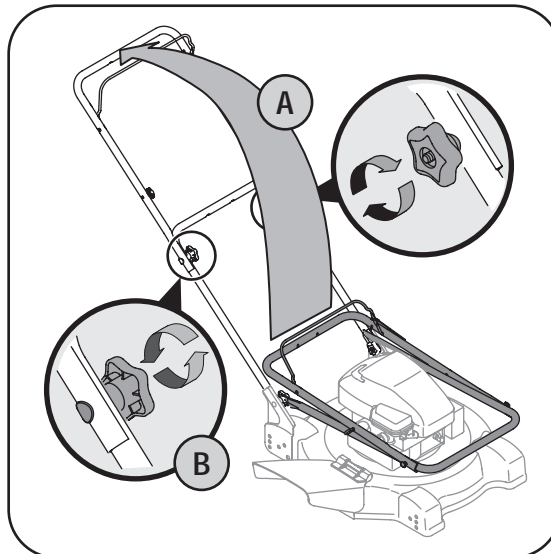

Figure 3-2
- a. Lift the upper handle up from folded position A and pull it to extended position B following the arrow in Figure 3-2. The handle should click into this position.